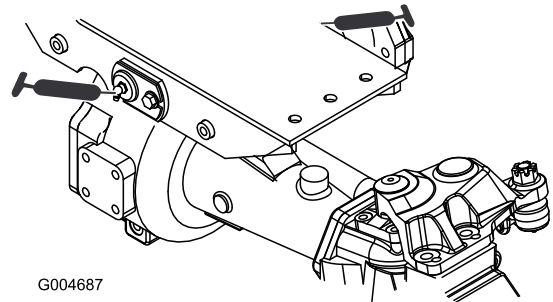

Figure 75
- 2 front and rear-axle-pivot bushings (Figure 75)